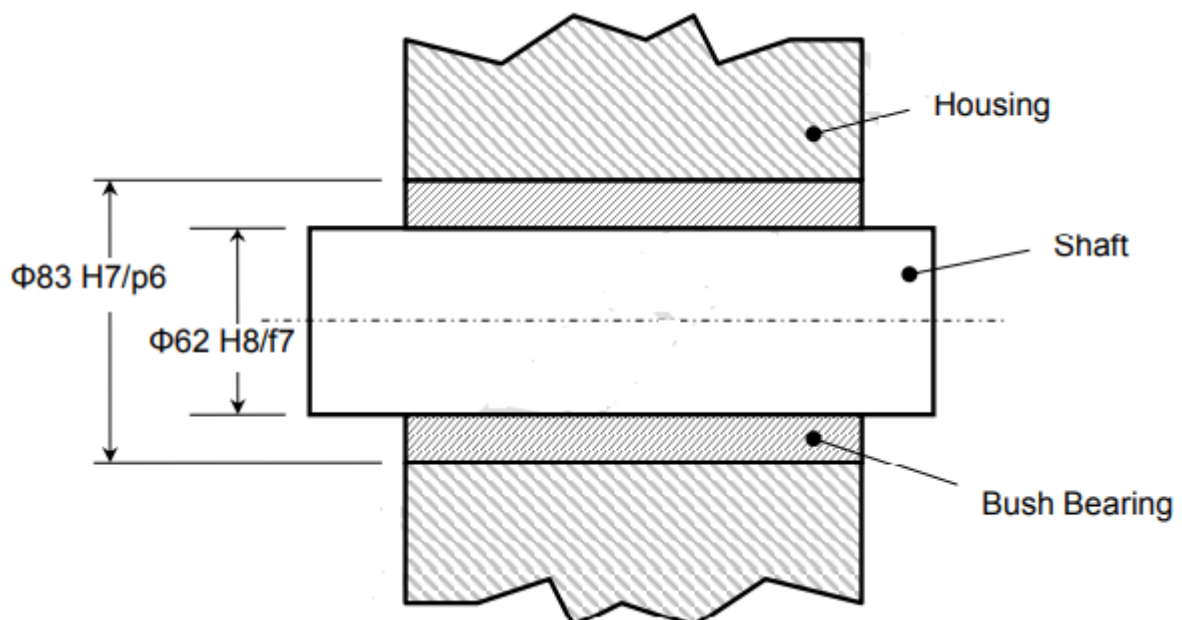

Figure 4
**4.** Drawn below in **figure 4** is a cross-section through a Shaft, Bush Bearing and Housing arrangement. Select fits that allow: